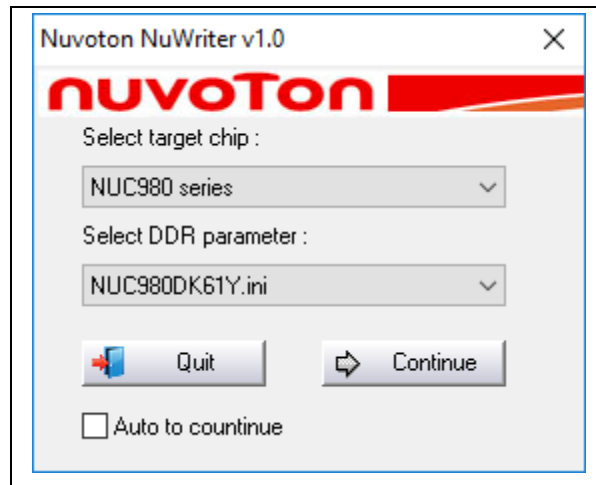

Figure 4-1 Nu-Writer Setting
- B. Set SW1(Power On Setting) to Boot from USB (show in Table 3-1 and Figure 4-1). Connect USB0 to PC and connect UART console to PC.